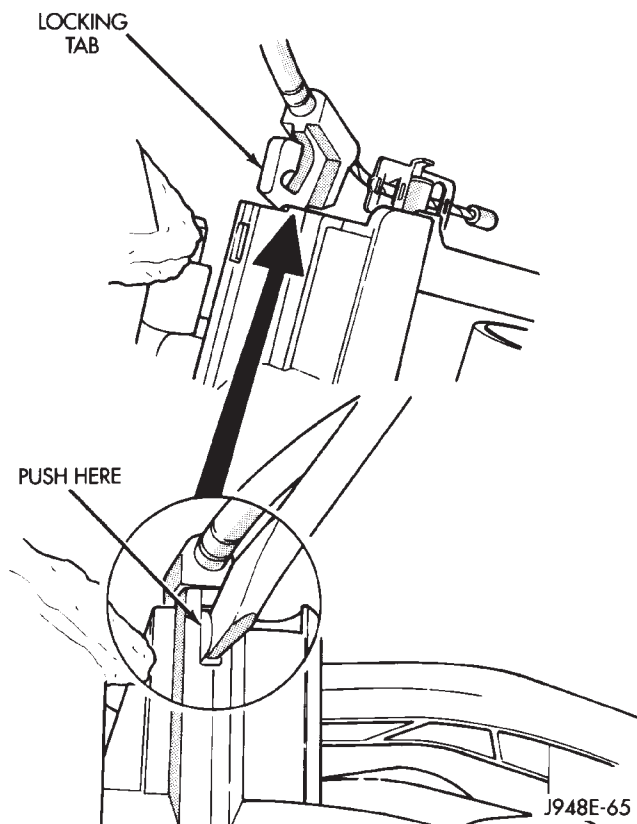

Fig. 50 Temperature Control Cable Remove/Install
(1) Disconnect and isolate the battery negative cable.
(2) Remove the glove box from the instrument panel. Refer to Glove Box in the Removal and Installation section of Group 8E - Instrument Panel Systems for the procedures.
(3) Disconnect the temperature control cable from the heater-A/C control. See Heater-A/C Control in the Removal and Installation section of this group for the procedures.
(4) Reach through the instrument panel glove box opening to disconnect the temperature control cable housing flag retainer from the receptacle on the top of the heater-A/C housing (Fig. 50).
(5) Pull the temperature control cable core self-adjuster clip off of the pin on the end of the blend-air door lever.
(6) Remove the temperature control cable from the vehicle.